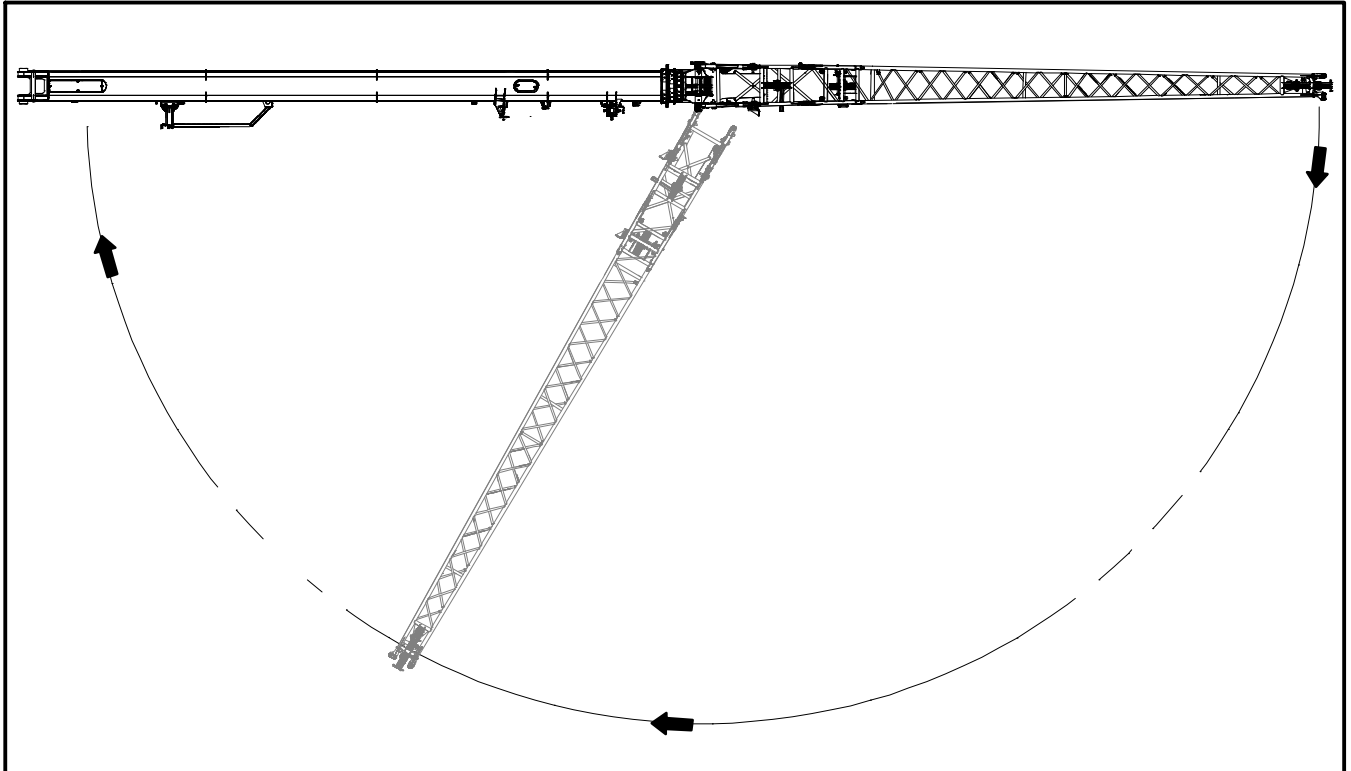

Figure 4–98
14. Slowly swing the fly section around to the right side of the boom while slowly booming up to 50°. Refer to Figure 4–98.